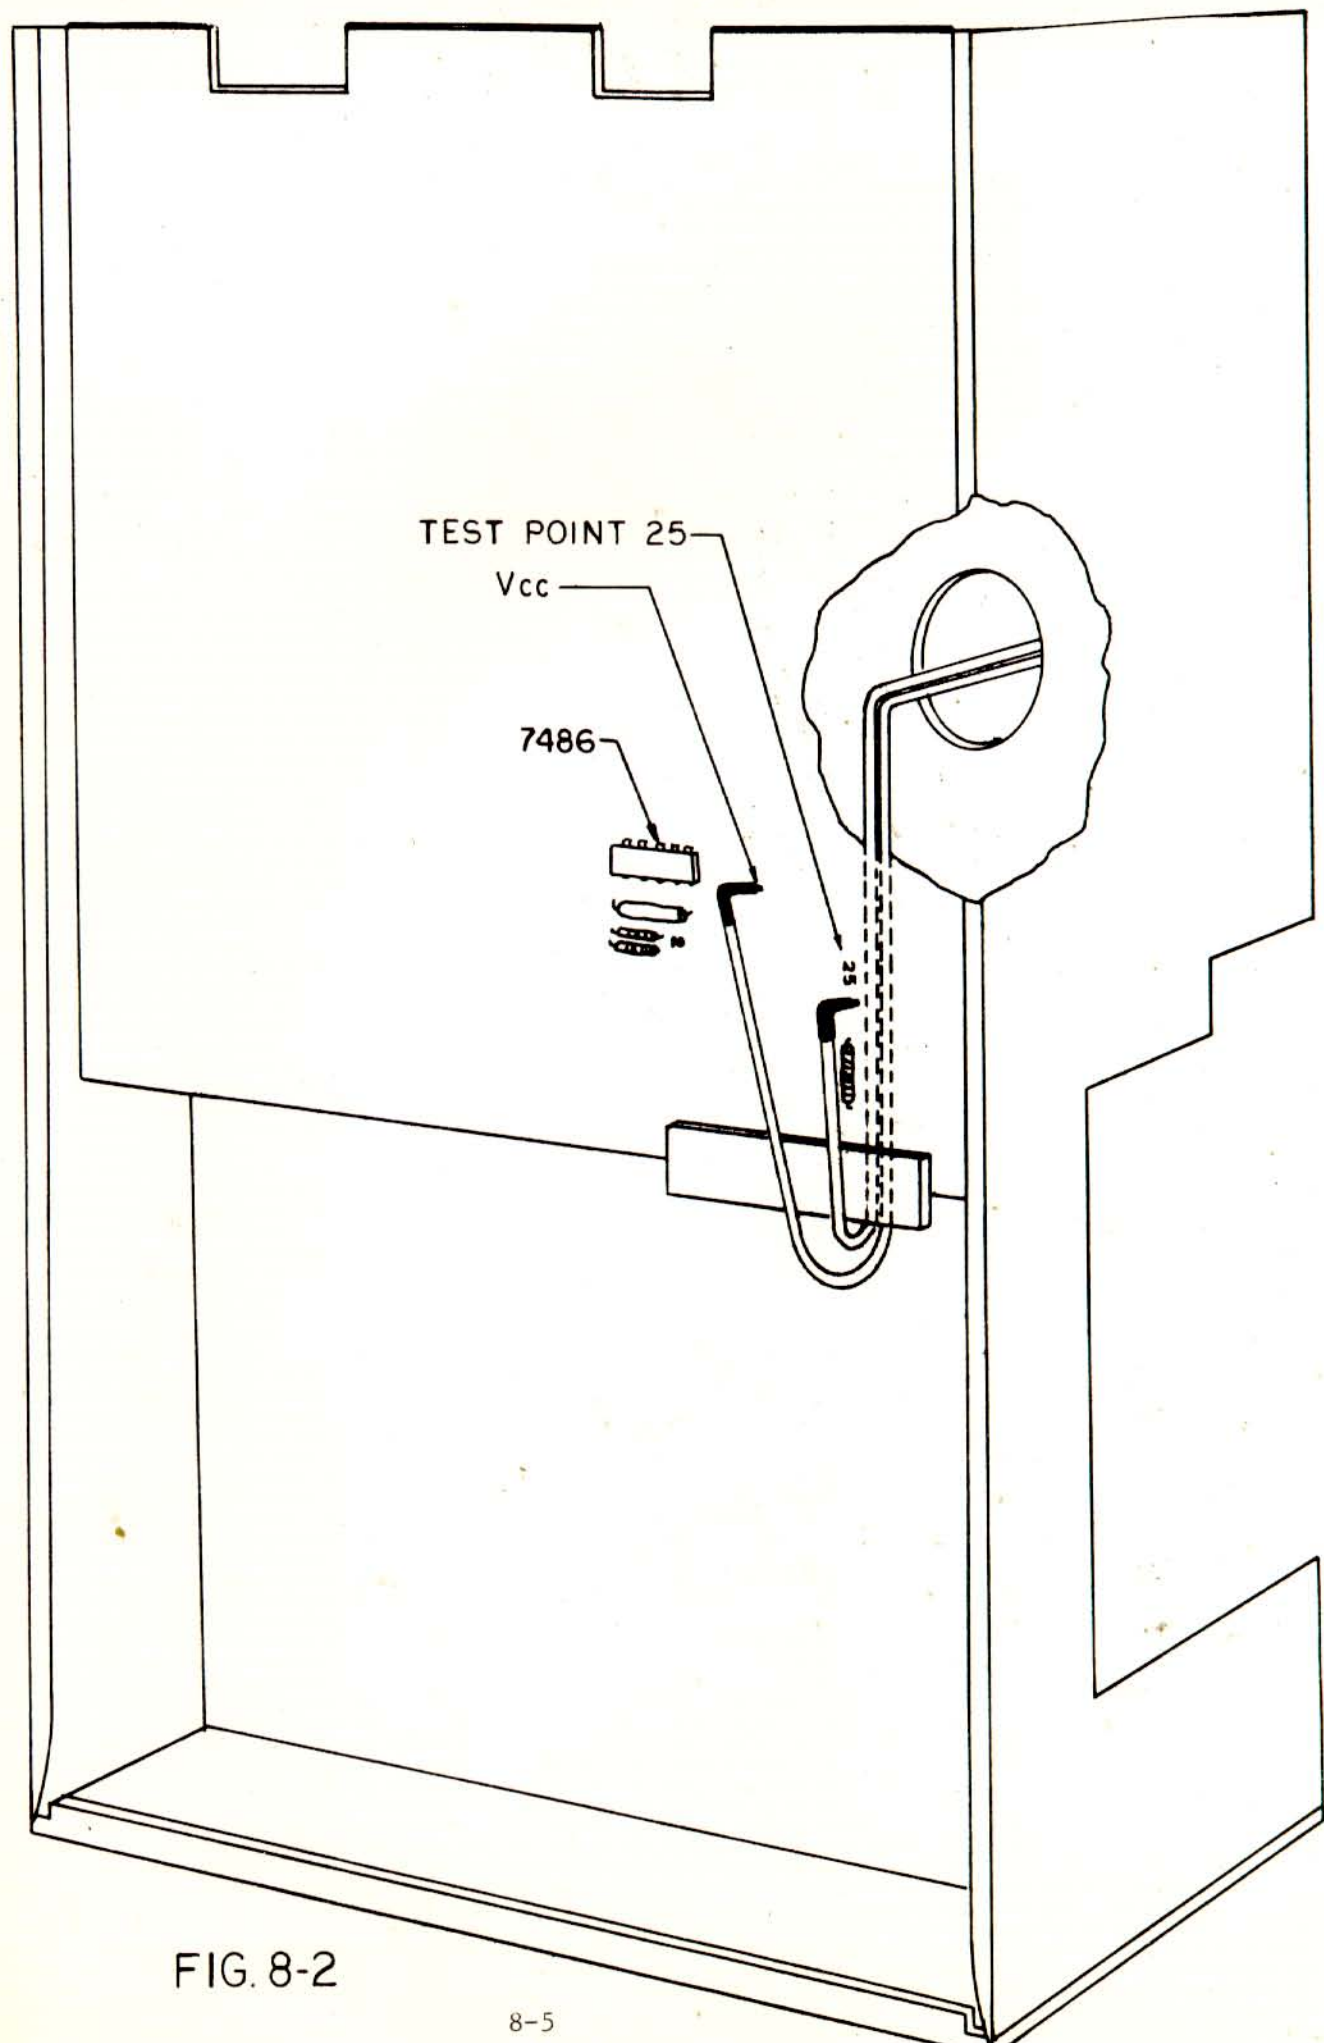

FIG. 8-2
- (1) The jumper marked HL is moved to DS.
- (2) The jumper marked DS1 is removed. If one wishes the drive to respond as unit 0, place this jumper at DS3. For response as unit 1, the jumper should be placed at DS4.
- (3) The write protect switch is wired between Test point 25 and Vcc (see figure 8-2).